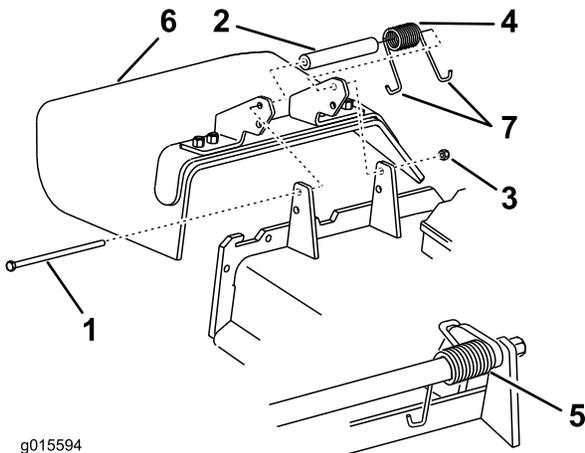

Figure 61
1. Remove the locknut, bolt, spring and spacer holding the deflector to the pivot brackets (Figure 61). Remove the damaged or worn grass deflector.
Note: Make sure one J end of the spring is installed behind the deck edge before installing the bolt as shown in Figure 61.
3. Install the bolt and nut. Place one J hook end of the spring around the grass deflector (Figure 61).